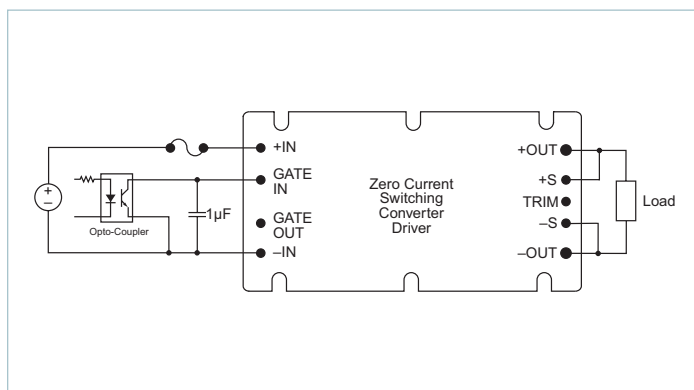

Figure 7.1 — Logic disable
**Logic Disable:** (Figure 7.1) The GATE IN pin of the module may be used to turn the module on or off. When GATE IN is pulled low (<0.65V at 6mA, referenced to  $-V_{IN}$ ), the module is turned off. When GATE IN is floating (open collector), the module is turned on. The open circuit voltage of the GATE IN pin is less than 10V. This applies to VI-/MI-200, VI-/MI-J00 and MegaMod / MI-MegaMod Family modules.